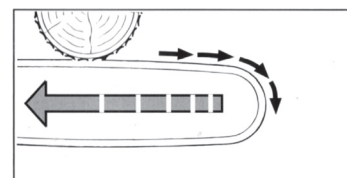

Fig. 4
- Close the guide cover, turn the locking nut slightly to set the cover in place but do not tighten it (Figure 4).